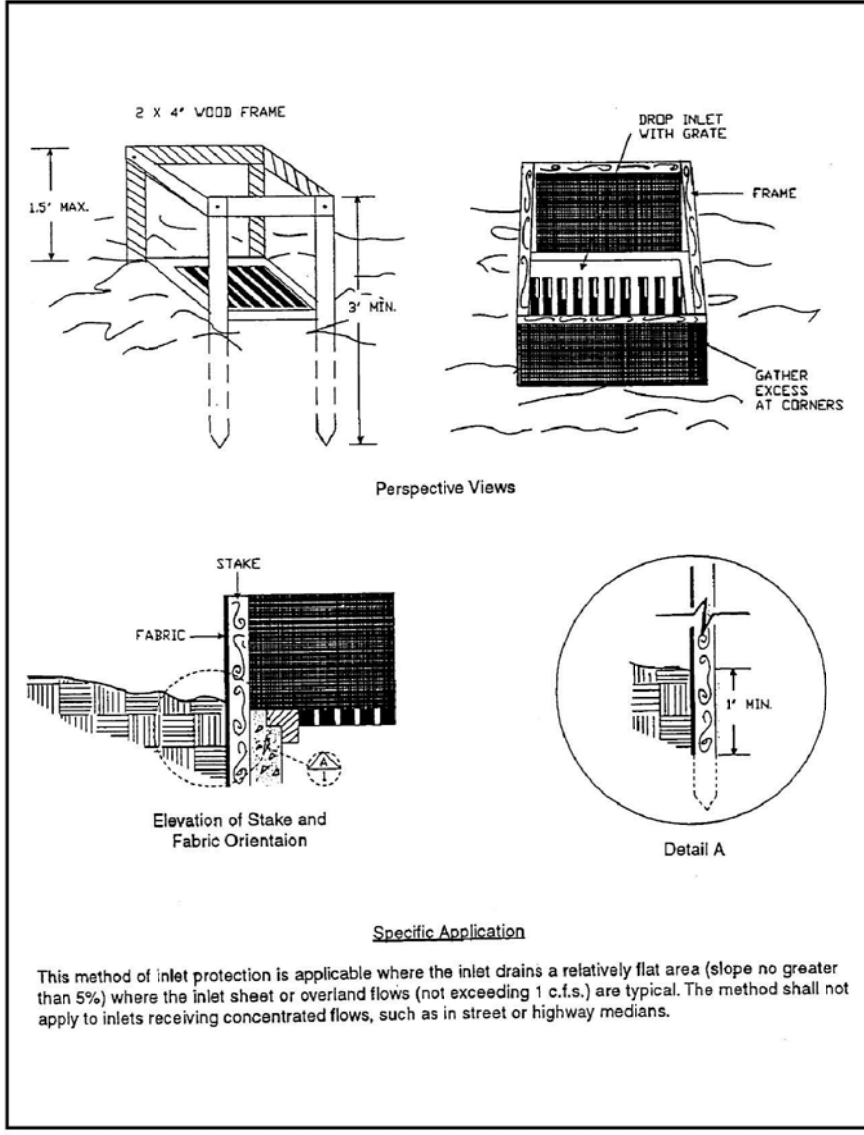

Figure 4.5b. Filter Fabric Drop Inlet Sediment Filter
5. A trench shall be excavated approximately 4 inches (10 cm) wide and 4 inches (10 cm) deep around the outside perimeter of the stakes (see Figure 4.5b).